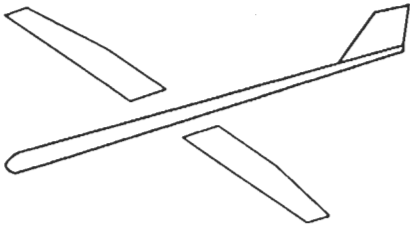

Figure 4 - Fuselage with stabilizer
6. Draw a box for the rudder or vertical stabilizer. It is 1 3/4" forward from the end of the fuselage (tail). The height of the box should be 1/2". Measure 5/8" across the top of the stabilizer. Then connect to complete the vertical stabilizer. (See Figure 4.)